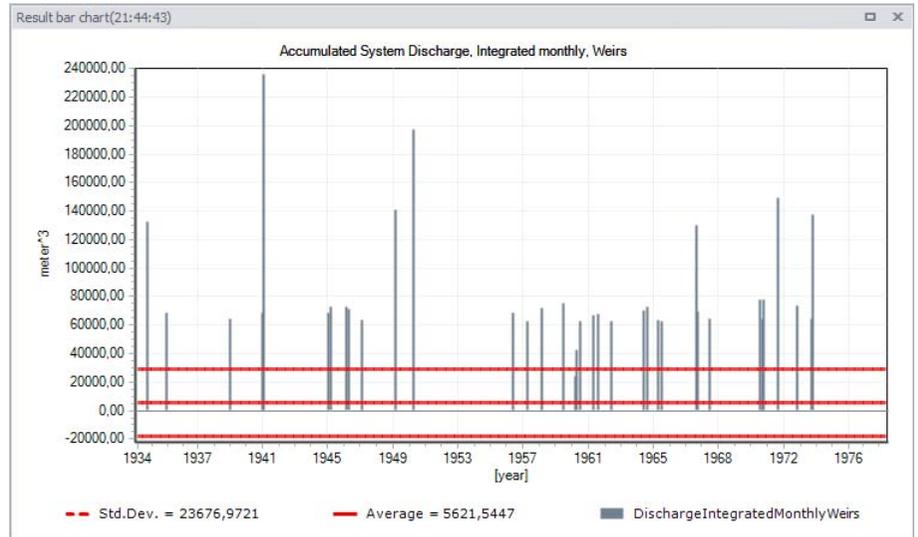

Figure 19.60 Example bar chart plot of monthly weir overflow volumes from LTS chronological statistics results
- Click on the ‘OK’ button to create a new bar chart plot. An example is shown in Figure 19.60.